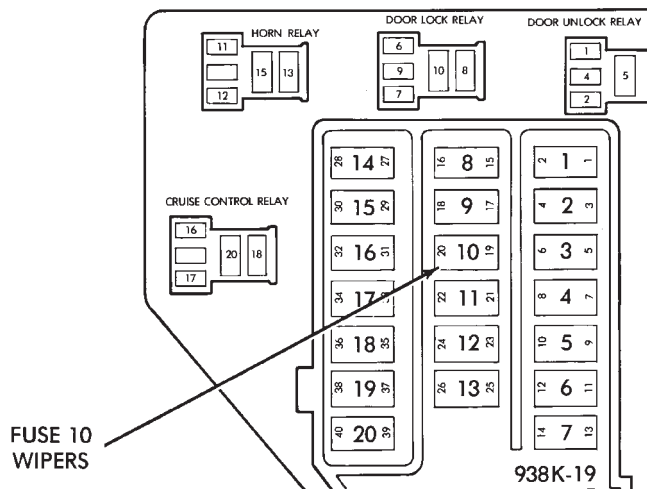

Fig. 8 Junction Block
(1) Check fuse #10, in the junction block and fuse #C in the power distribution center (Fig. 8 and 9).